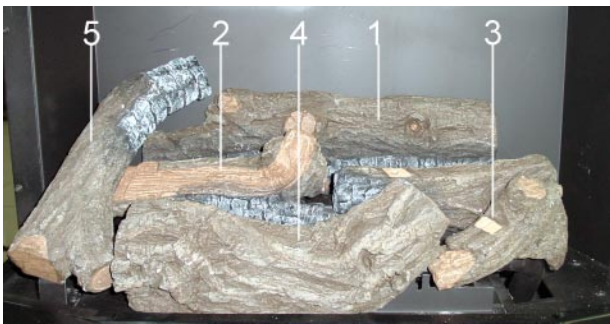

Figure 3
STEP 2: Put log 5 on top of log1 and log2, as shown in the drawing (See Figure 3).